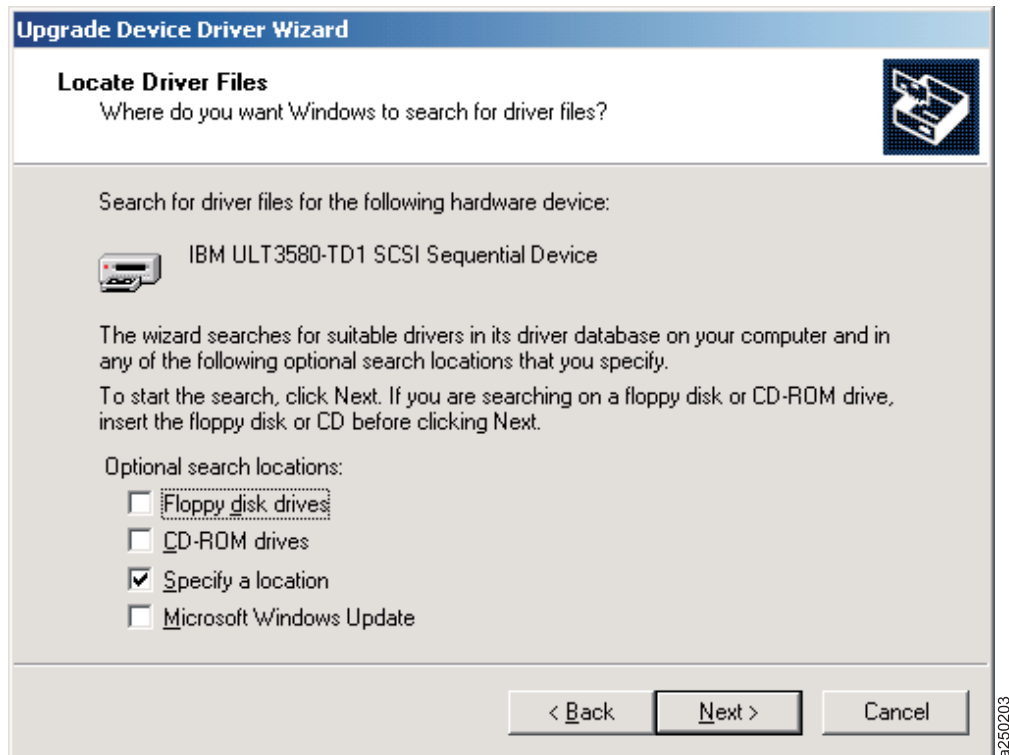

Figure 30. Locate Driver Files Screen with Specify a Location Selected
13. Select the **Specify a location** checkbox and clear all other checkboxes. Click **Next >**. See Figure 30 on page 216.